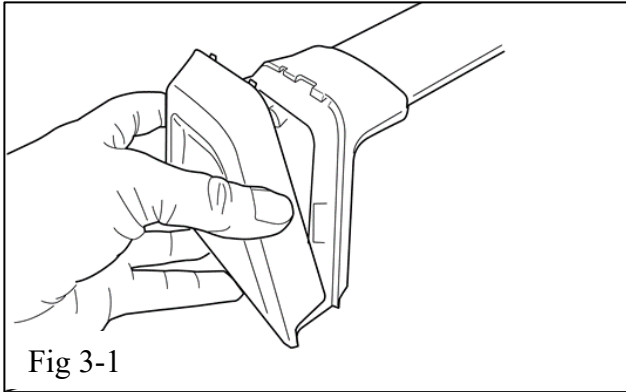

Fig 3-1
- (a) Identify the corresponding crossbar stanchion cover (LHF/LHR,RHF,RHR) and align with the bottom of the stanchion (Fig. 3-1).